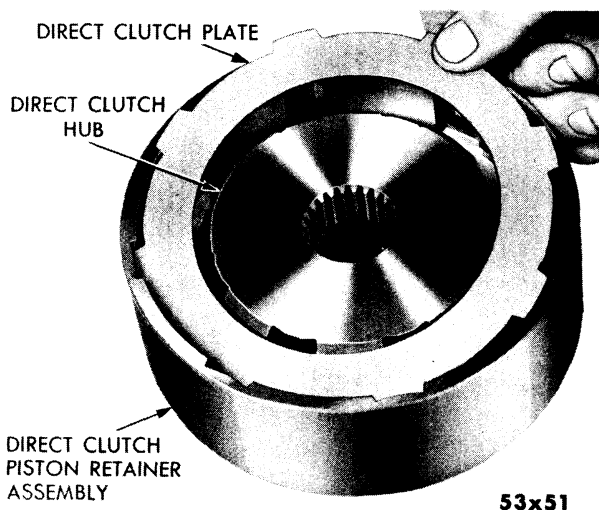

Fig. 91—Assembly of Direct Clutch
- (6) Place the direct clutch hub in center of direct clutch piston retainer.
- (7) Lubricate all clutch plates and driving discs with Automatic Transmission Fluid (Type "A") and assemble by placing one of the clutch plates in the direct clutch piston retainer (Fig. 91), followed by a driving disc. If first driving disc was installed with cork portion on outer top, the remaining